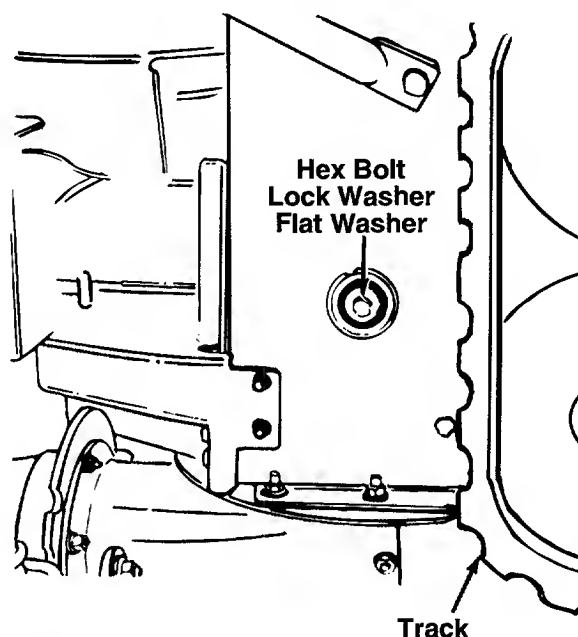
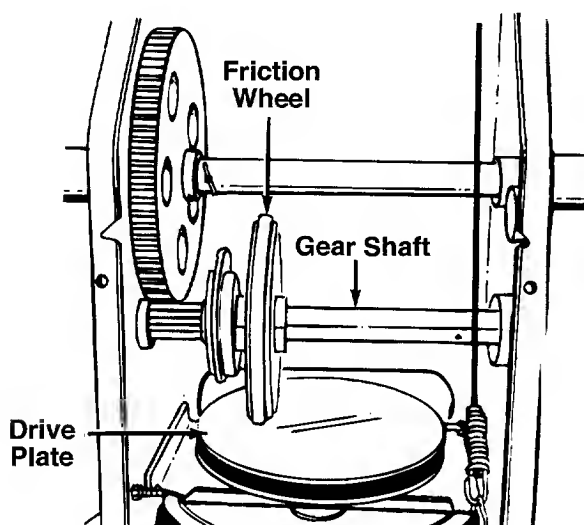

FIGURE 23.
FIGURE 24.
- Remove the gear shaft from the unit by removing the bolts, lock washers and flat washers from each side of the frame. See figure 23. Hold the friction wheel assembly, and slide the gear shaft out of the unit toward the right hand side. Refer to figure 24.
- Slide the friction wheel assembly up onto the shift mechanism as shown in figure 24, and slide the gear shaft back into the unit. Reassemble in reverse order.
With the snow thrower tipped forward (be certain to drain the gasoline or place plastic film under the gas cap if the snow thrower has already been operated), remove the frame cover underneath the snow thrower by removing four self-tapping screws. With the traction drive clutch released, there must be clearance between the friction wheel and the drive plate in all positions of the shift lever. With the traction drive clutch engaged, the friction wheel must contact the drive plate. See figure 24.